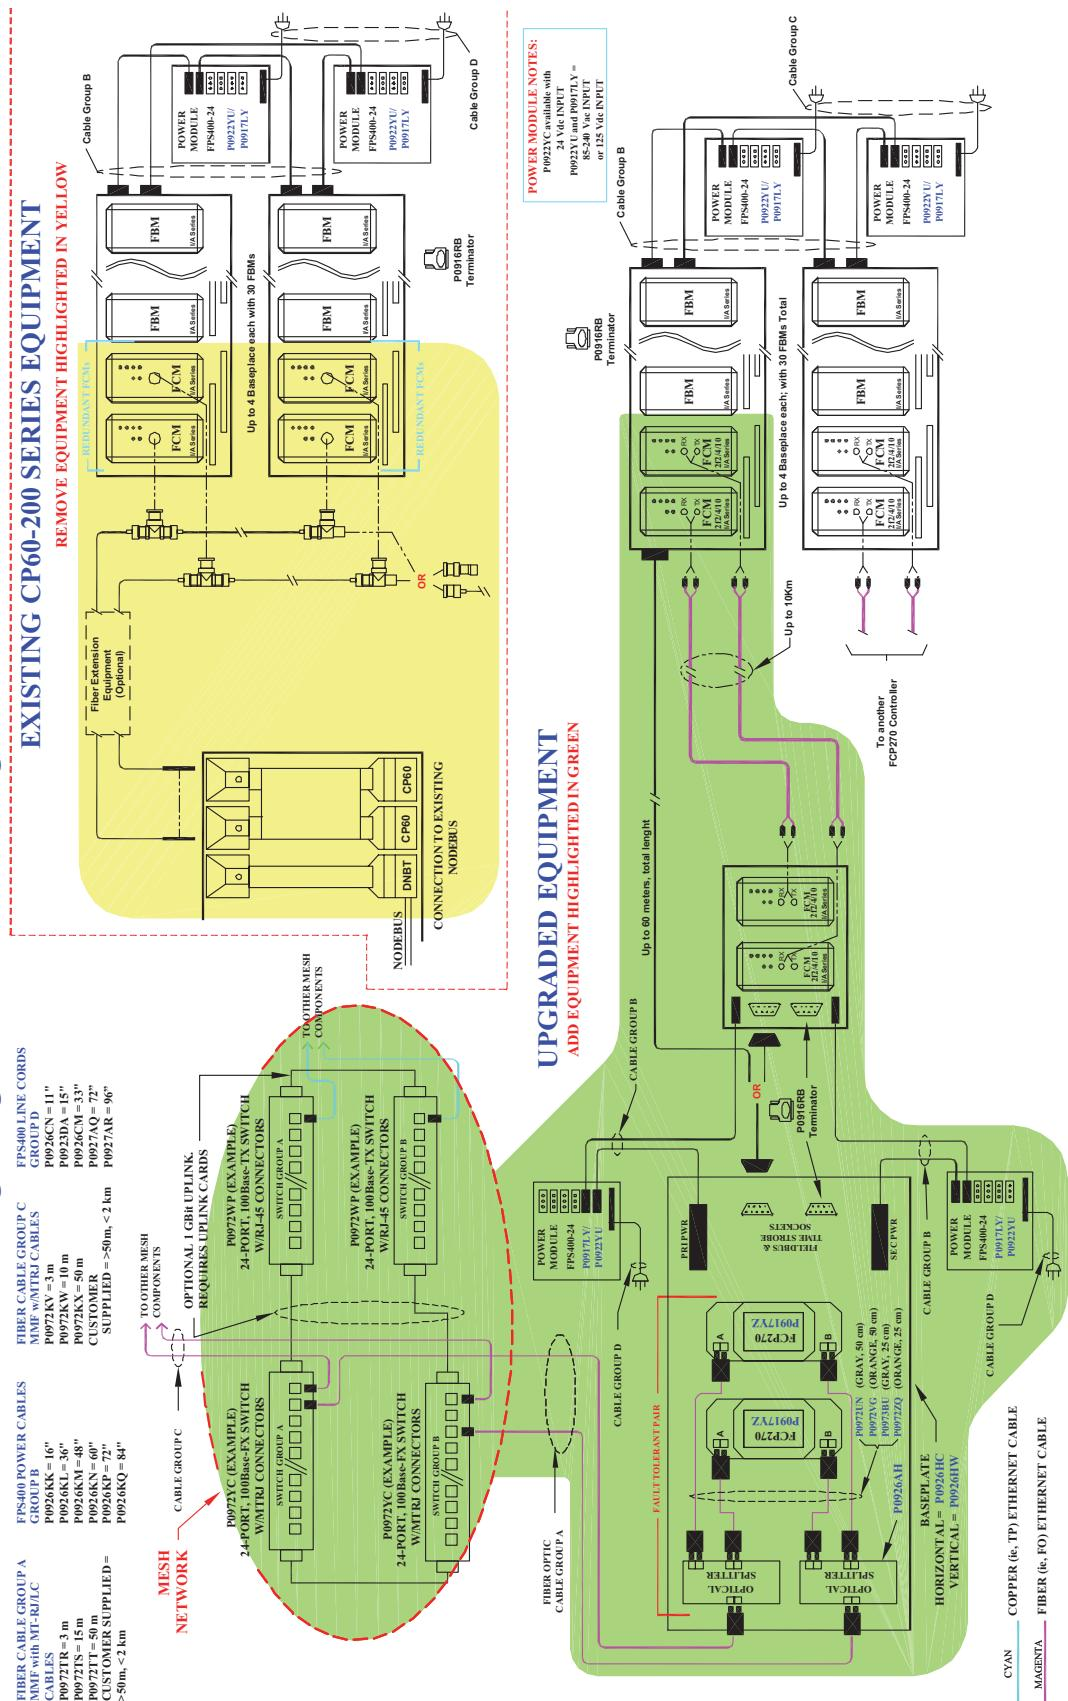

Figure A-7. Converting CP60 with 200 Series DIN Rail Mounted Equipment to FCP270
- ◆ Figure A-7 “Converting CP60 with 200 Series DIN Rail Mounted Equipment to FCP270” on page 90